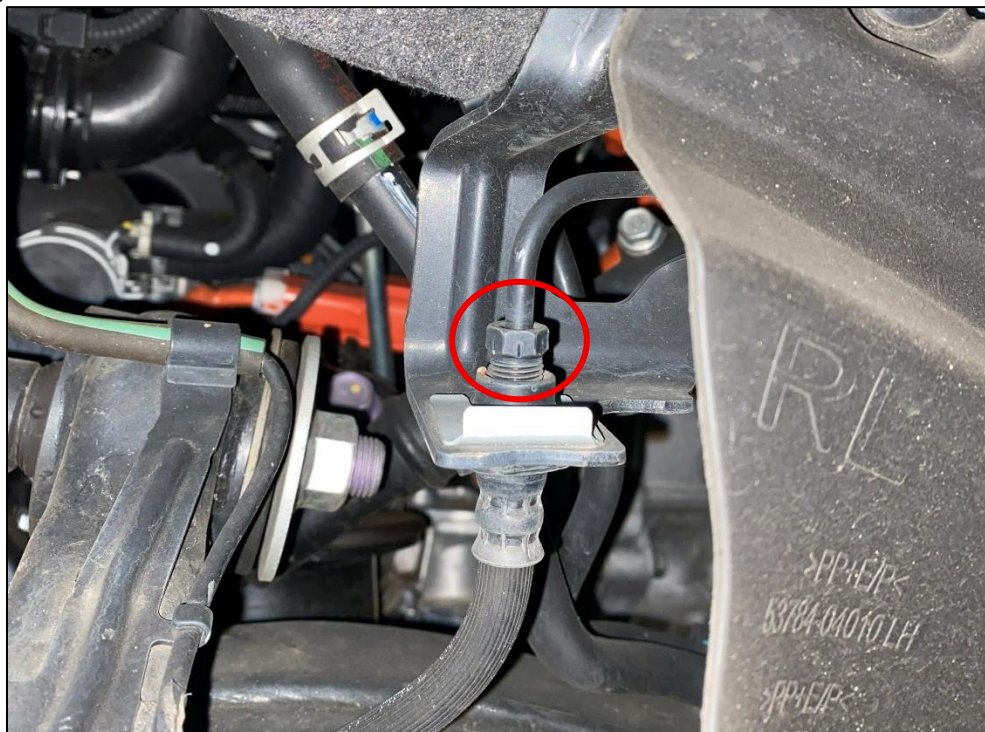

Figure 3
3. Disconnect the OE Soft Brake Line from the Upper OE Hard Line by loosening the nut on the Hard Line. If the line twists without loosening, a wrench may be needed to hold the Soft Brake Line in place. *Figure 3.*